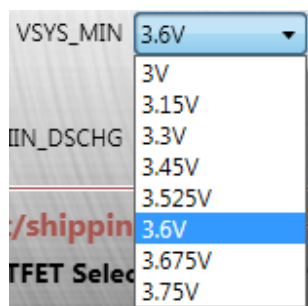

Figure 15: Setting the V_{SYS_MIN} Threshold
- The default value is 3.6V (see Figure 15).